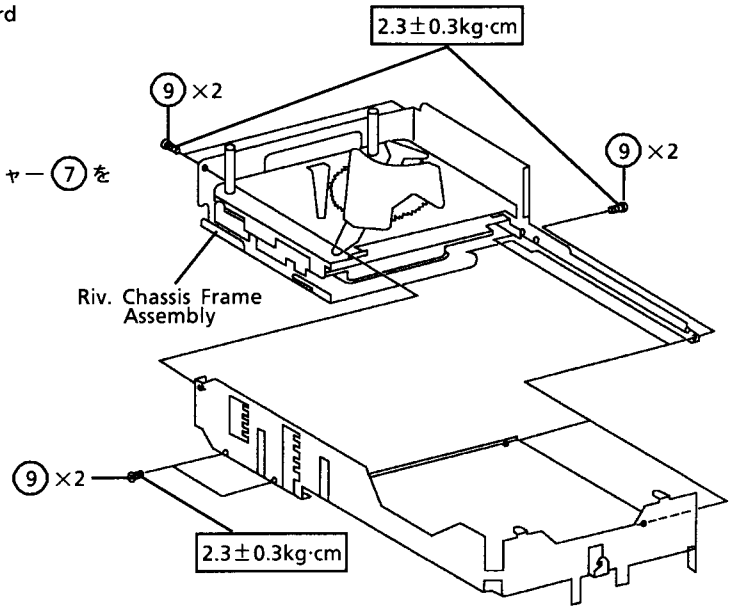

Figure 3
- (2) Remove the two screws (8) as shown in Figure 3.
- (3) Elevator Motor with the Elevator P.C.Board can be removed completely.
- (1) Remove the six screws (9) as shown in Figure 3.